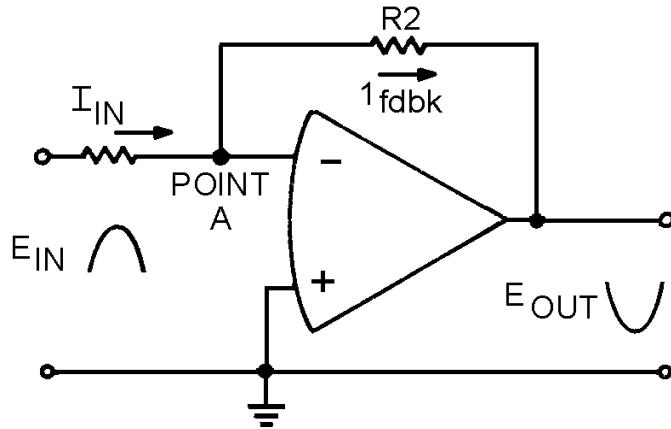

Figure 3-15.—Current flow in the operational circuit.
Given these conditions, the characteristics of this circuit are determined almost entirely by the values of R1 and R2. Figure 3-15 should help show how the values of R1 and R2 determine the circuit characteristics.
*Q-24. In a circuit such as that shown in figure 3-15, if R1 has a value of 100 ohms and R2 has a value of 1 kilohm and the input signal is at a value of + 5 millivolts, what is the value of the output signal?*